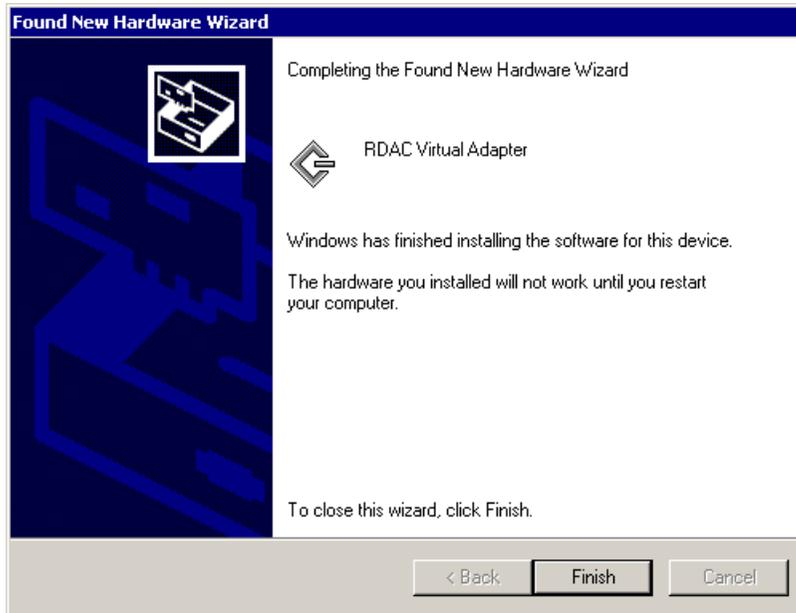

Figure 5-7 Found New Hardware Wizard window
10. Once the server has restarted and you have logged on, the Found New Hardware Wizard is started, indicating that the RDAC Virtual Adapter has been found (see Figure 5-7):